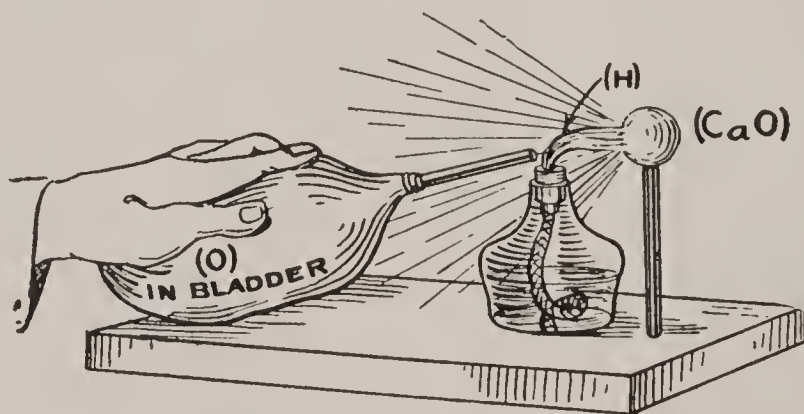

FIG. 48.—How to Make an Oxy-Calcium Light.
The next step is to make enough oxygen (O) to fill the toy balloon or bladder with, then press down on the latter and direct the stream of gas on the flame so that they will both strike the piece of lime as shown in Fig. 48. The flame thus produced will be very hot and it will heat the